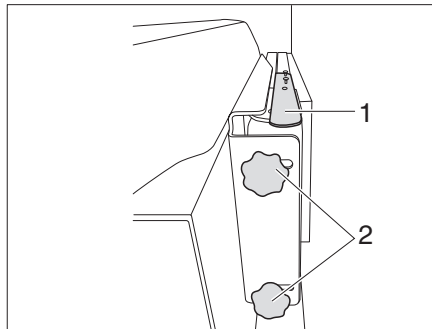

Fig. 131 Holder with jointed arm (variant 1)
- Press the lever (Fig. 131,1) downwards to release the flat screen from the latch. Release the lever.
- Undo the 2 knurled screws (Fig. 131,2) and swivel the flat screen into the desired position. Retighten the knurled screws (Fig. 131,2).